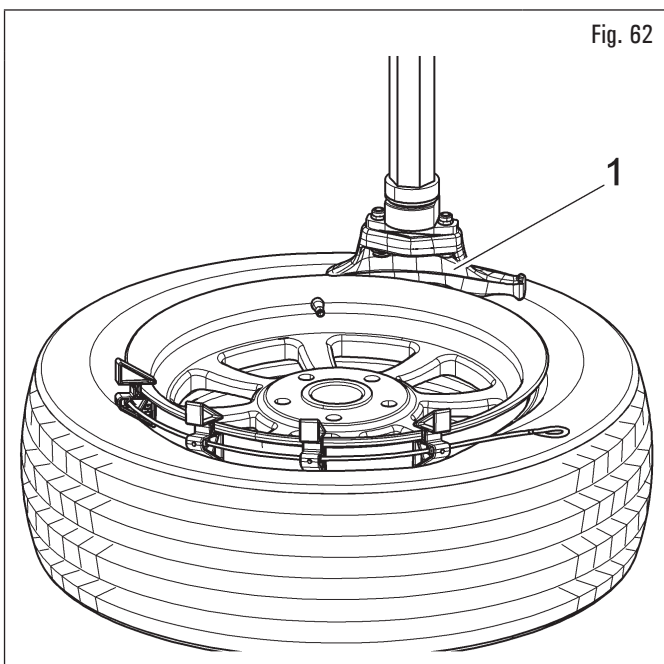

Fig. 62
4. release the hexagon shaft (Fig. 60 ref. 1) and set toolhead (Fig. 62 ref. 1) radially and vertically on rim and lock it in place using the push button on handle (Fig. 60 ref. 2);
If it is not possible to lower the bead manually enough, abundantly lubricate the sidewall of the tyre opposite the toolhead and use the pneumatic bead press to lower the sidewall of the tyre itself, until the bead presser extension blocks can be hooked to the edge of the rim with the side marked "EH2" facing downwards (Fig. 62 and Fig. 63);